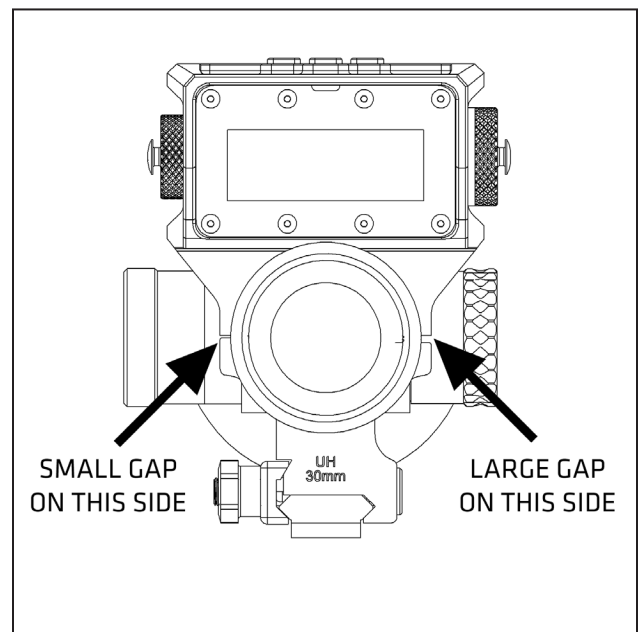

Figure 9.
9. Tighten mount screws # 3 and # 4, and torque all four mount screws, in sequence # 1 to # 4, to 35in/lbs or 3.95Nm. Figure 9.